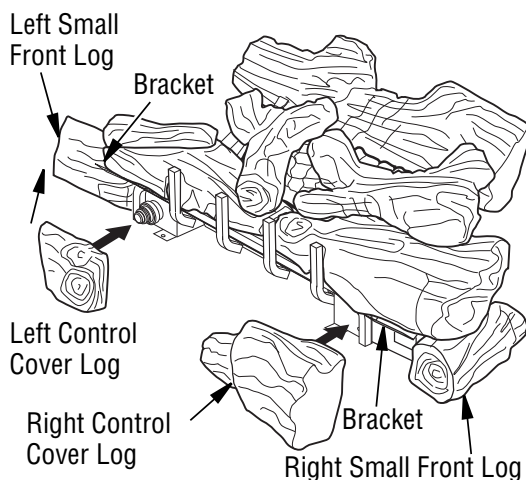

Figure 21 - Installing AndesMtn36 Model Control Cover Logs
7. For AndesMtn36, the front right and left logs are longer and are supported with brackets on each end (see **Figure 21**). Place left and right small front logs under left bracket and beside right bracket.